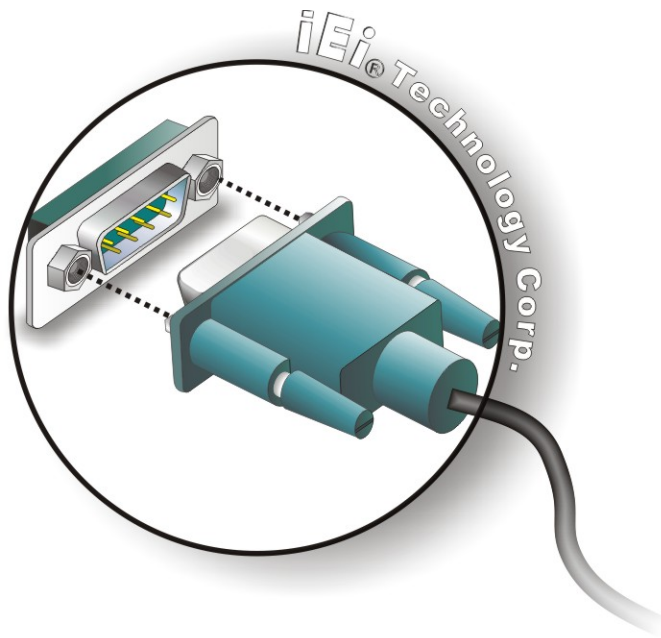

Figure 3-24: Serial Device Connector
Step 2: Insert the serial connector. Insert the DB-9 connector of a serial device into the DB-9 connector on the bottom panel. See **Figure 3-24**.